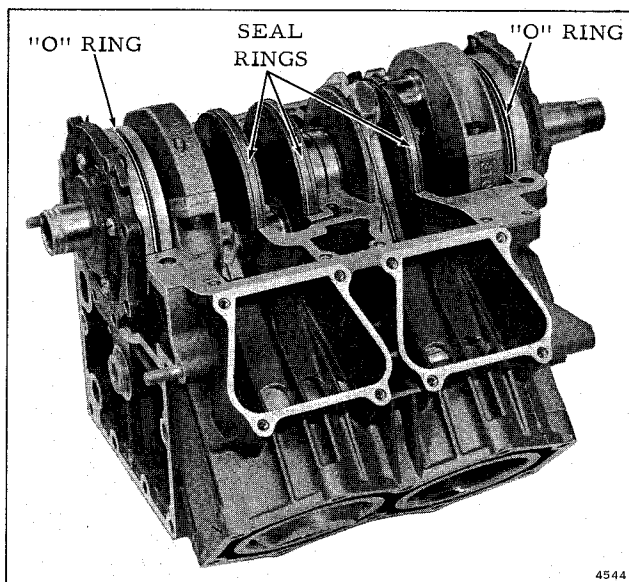

Figure 5-30. Correct Crankshaft Installation
e. Assemble crankshaft to cylinder block. While installing crankshaft, pistons must be as close to top of cylinders as possible, and crankpins should be aligned vertically. See Figure 5-30. While placing the crankshaft into position, rotate the crankcase heads slightly to prevent damage to the "O" rings. Note dowel pin in center bearing location in cylinder block and corresponding hole in center journal bearing race. Adjust position of bearing assembly to fit over dowel pin.